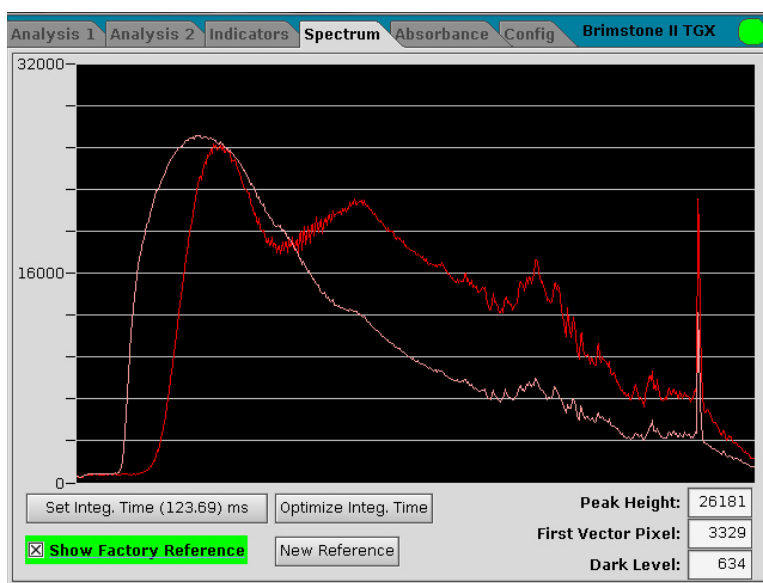

Figure 34: Factory Reference
The **Factory Reference** is a zero gas transmission spectrum that was saved at the factory at the time of analyzer factory calibration. When the **Show Factory Reference** checkbox is checked by using the FIELD NEXT / FIELD PREV keys to highlight and then pressing ENTER to check the box, the factory reference spectrum is shown superimposed on the same axes as the currently displayed spectrum. The Spectrum panel with the Factory Reference being displayed is shown in Figure 34.
- The factory reference should be notably different from the current transmission spectrum, as it is in Figure 34, when the analyzer is in sampling mode. If the sampling spectrum is the same or very similar to the factory reference, this could indicate an issue with plugging in the sample probe. Refer to Section 7.9 for details on how to clear a plugged probe.